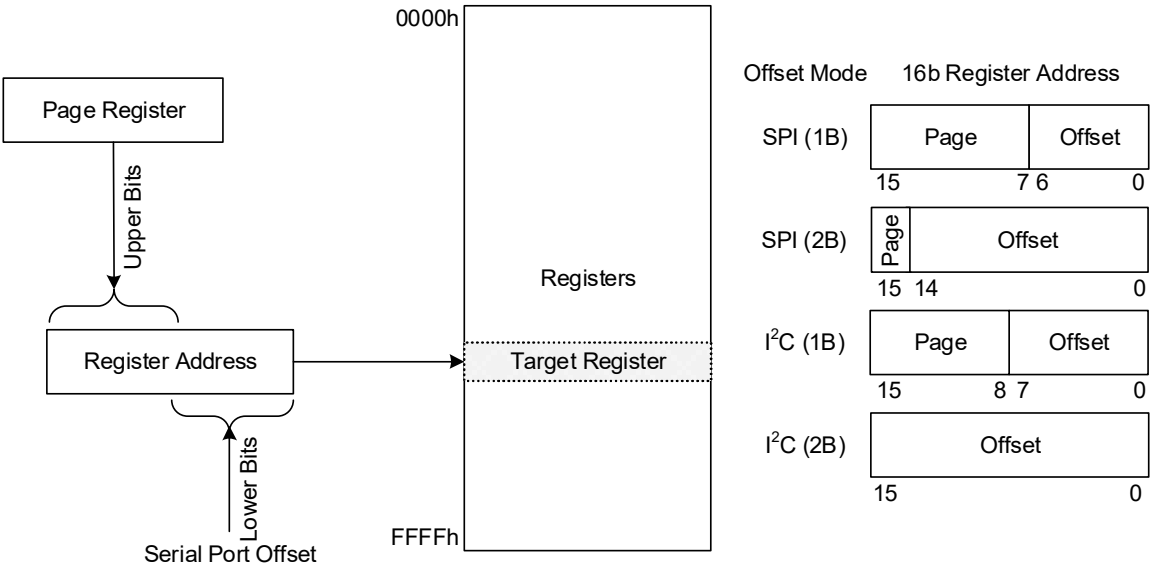

Figure 11. Register Addressing Modes Using Serial Port
You can choose to operate the serial port providing the full offset address within each burst, or to operate in a paged mode where part of the address offset is provided in each transaction and another part comes from an internal page register in each serial port. Figure 11 shows how page register and offset bytes from each serial transaction interact to address a register within the RC32312, RC32308.
The selection of 1-byte (1B) or 2-byte (2B) offset addressing must also be configured using the ssi_addr_size register field. These offsets are used in conjunction with the page register to access registers internal to the device (see Figure 11). Because the I²C protocol already includes a read/write bit with the Dev Addr, all bits of the 1B or 2B offset field can be used to address internal registers.
- 1-byte (1B) or 2-byte (2B) offset addressing (ssi_addr_size) (see Figure 11)